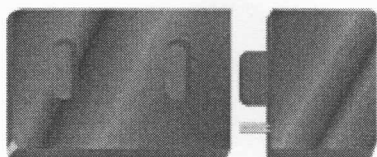

FIGURE 17
The Two-Light Panel (Figure 17) features a green light marked POWER, to indicate the System has electrical power, and a yellow light marked WATER, which blinks when the Humidifier needs water. The Single-Light Cube is controlled by the Smart Bracket (SB). The red SB light, marked PADS, will blink when the pads need to be replaced. Connect the two-light panel and the single-light cube together by inserting the tongue-latch and two prongs (on the side of the single-light cube) into the corresponding openings on the two-light panel. Insert the metal prongs first while firmly pushing the panels together. NOTE: the tongue-latch is slightly bent to create a snug fit between the two panels.